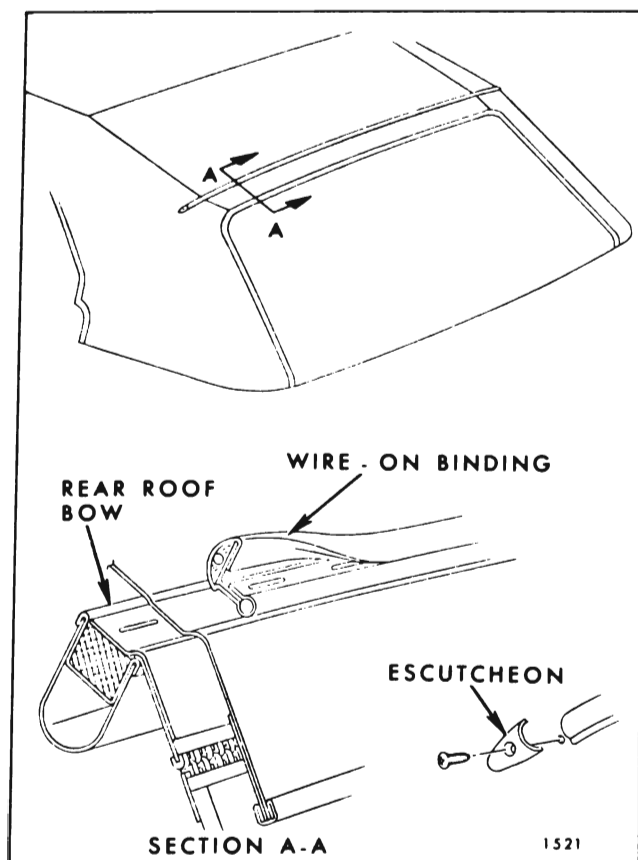

Fig. 13-37 — Rear Roof Bow Wire-On Binding
22. Remove screw securing escutcheon clip at each end of wire-on binding on rear bow. Remove wire-on binding from rear bow. Detach top material from rear roof bow and from trim sticks, then remove top cover assembly (Fig. 13-37).